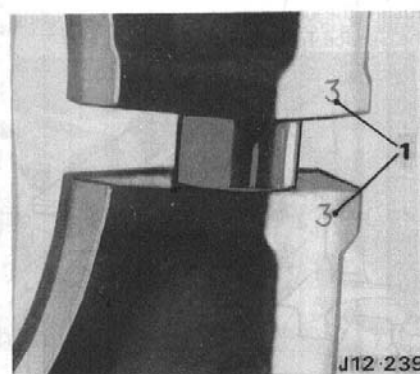

Fig. 98
**NOTE:** Ensure the connecting rod caps are fitted as in (1, Fig. 98).
connecting rod cap is removed ensure that each rod and cap are identified to each other (1, Fig. 98), as this will be necessary during assembly. Also as each cap is removed its relative connecting rod and